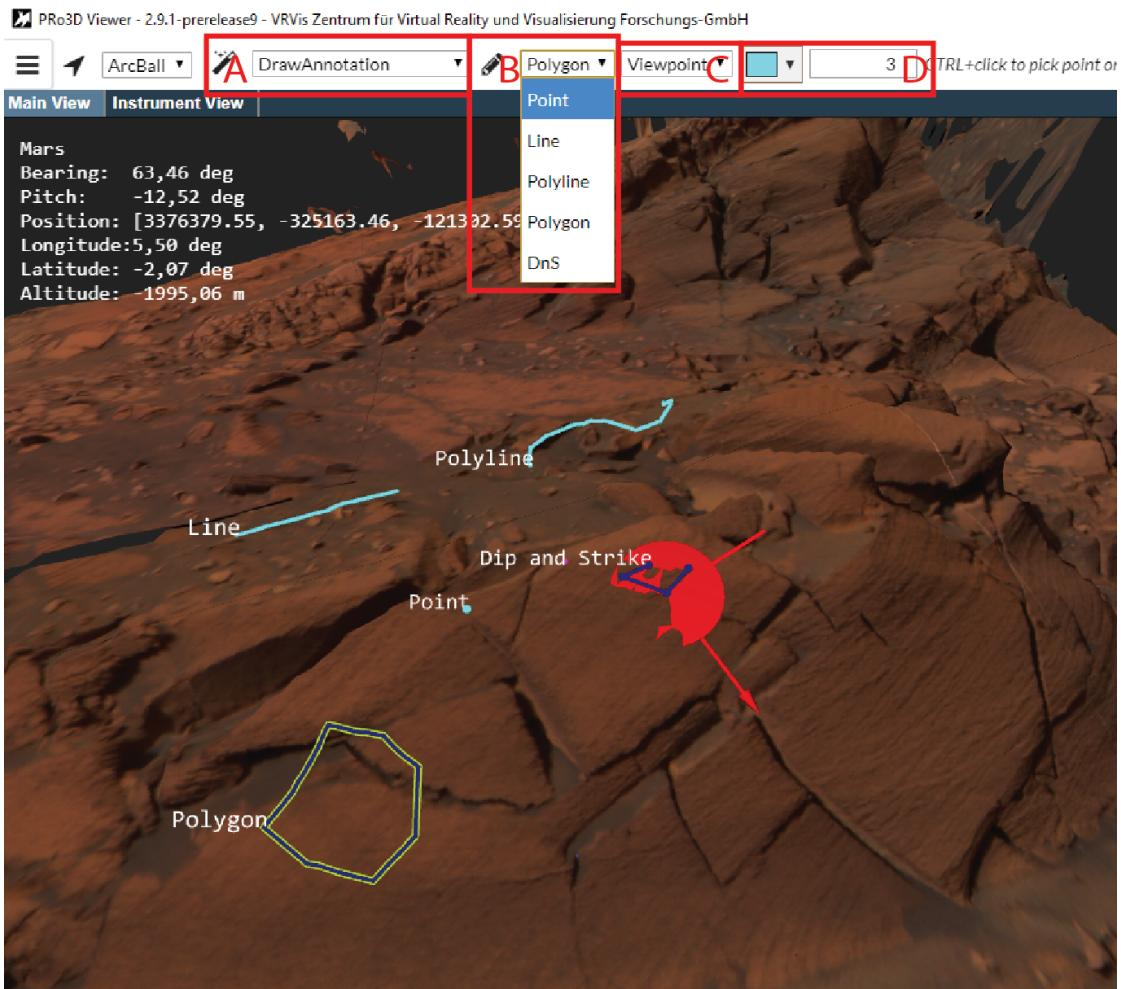

Figure 9: Annotation settings: **A**: set viewer action to “DrawAnnotation”. **B**: select annotation mode. **C**: select projection. **D**: choose color and thickness.
Figure 9 shows the settings for drawing annotations. First set “DrawAnnotation” in the actions menu (A in Figure 9). Then you can choose one of the following annotation modes (B in Figure 9):
- *DnS*: (= Dip and Strike) A polyline onto a surface, e.g. alongside a rock layer can be picked. After clicking Enter, a plane is fitted (least squares) to this polyline (blue), which is then intersected with a horizontal plane, which gives us the so-called strike vector (red). This vector represents the direction within the plane with the least inclination and orthogonal to it is the dip vector (green) which shows the direction of highest inclination as shown in Figure 9.
For all annotations (except Point) you can choose between “Linear”, “ViewPoint” and “Sky” projection which determines the direction of the picking ray (C in Figure 9):
Finally you can set the color and thickness of the annotation (D in Figure 9). Section 4.2 shows how to maintain, group and edit existing annotations.
Then the annotation turns its color to green in the listing and gets a green border in the main view as shown in Figure 9, where the Polygon is selected. Once selected, you can explore and adjust the annotation's properties (see Section 4.2).
- *D+S Plane Size*: The dip and strike measurements plane size, described in Section 3.3 (Figure 9).